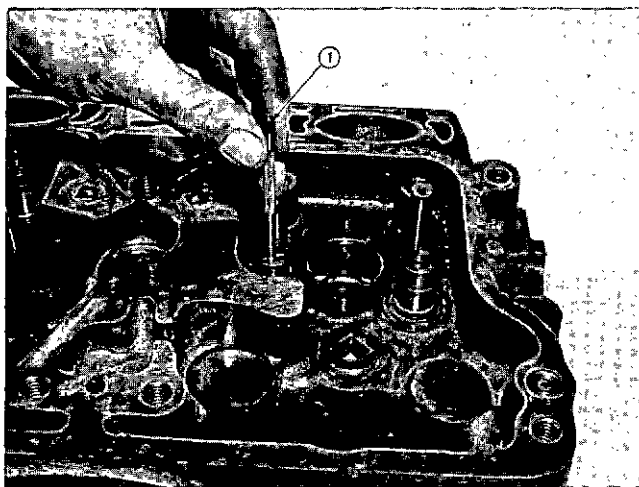

Fig. 2-5-5, V40238. Measuring valve guide
1. A plug gauge is not satisfactory to gauge worn guides. It will not detect an out-of-round hole. Instead, use a small bore gauge—Starrett No. 829-D, or similar (1, Fig. 2-5-5).
2. To use a small bore gauge, set it with accurate micrometers at 0.0002 inch [0.0050 mm] larger than worn replacement limit shown in Table 2-5-1. Then use bore gauge as a "No-Go" gauge. Fig. 2-5-5. Gauge the hole at several points crosswise and endwise of head.